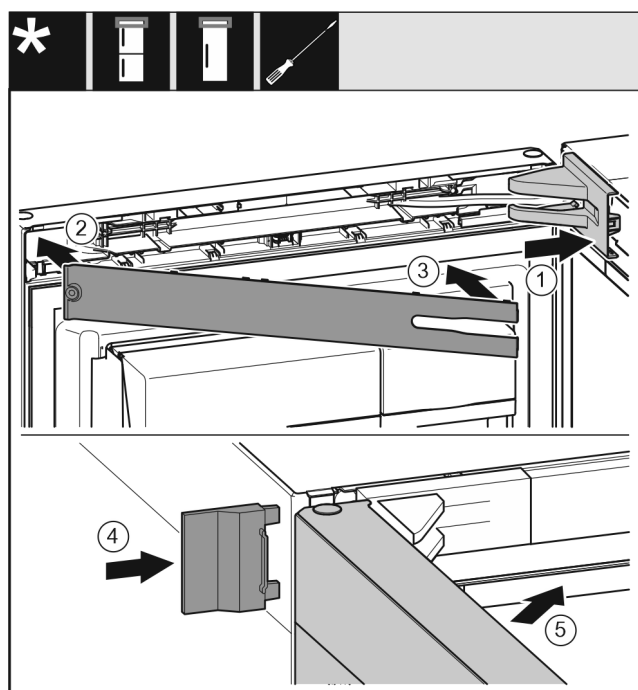

Fig. 21
- Position the bearing bracket cover and engage it. If necessary push it apart carefully. Fig. 21 (1)
- Place on the panel. Fig. 21 (2)
- Swing in the panel and latch it into place. Fig. 21 (3)
- Slide on the outer cover. Fig. 21 (4)
- Close the upper door. Fig. 21 (5)